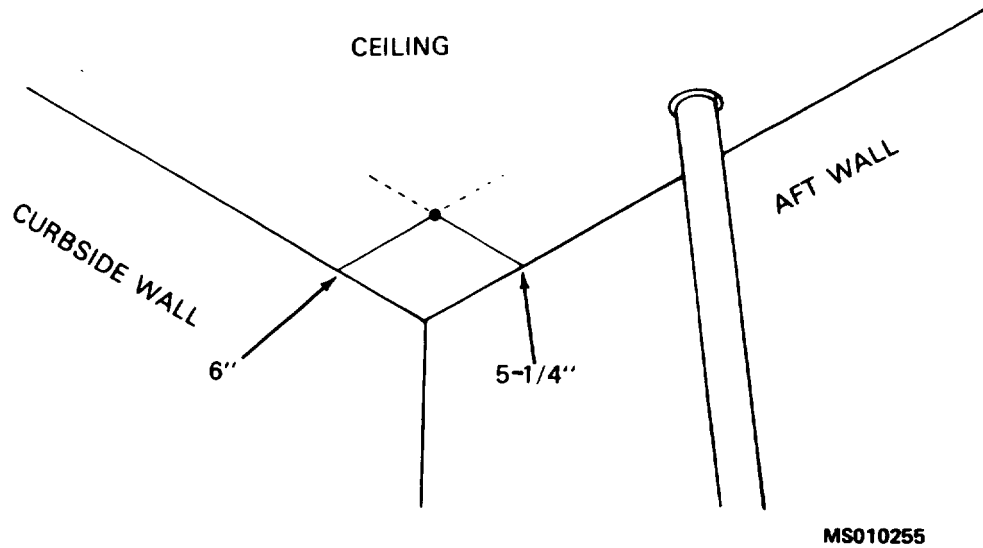

FIGURE 3-12. CEILING SCRIBE MARKS
b. On the inside, right rear ceiling of the APC, scribe mark 5.25 in from aft wall and 6.00 in from the curbside wall as shown in figure 3-12.